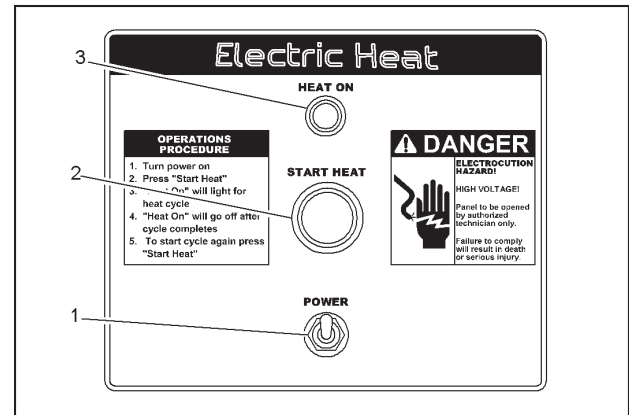

FIGURE 3-2
On the screed heat control box, turn the power switch (Figure 3-2, Item 1) to the "ON" position. Now press the "Start Heat" (2) button. The heating cycle will begin, and the "Heat On" (3) light will illuminate. The "Heat On" (3) light will stay on as long as the screed heat is operating. The factory time setting for the heating cycle is approximately 30 minutes. This should be sufficient in most circumstances to generate sufficient heat for the paving process to begin without screed heat problems. Once the heating cycle is complete, the "Heat On" (3) light will go out, and the elements will no longer heat the screed plates. The temperature that the screed plates reach will depend on the outside ambient temperature of the day, or morning that the heat is operated. If, after the heat cycle is run one time, and the screed plates still require a higher temperature, the operator only has to re-start the system by pressing the "Start Heat" (2) button again. The system will run for the set time once more.